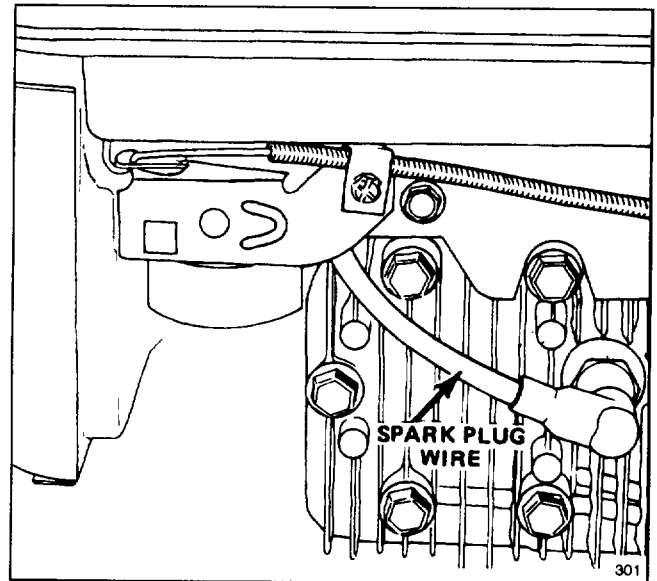

Figure 11
2. Push spark plug wire onto spark plug (Fig. 11).
1. Stop the engine and pull the wire off the spark plug (Fig. 11).
1. Stop engine and pull wire off spark plug (Fig. 11).
3. Set air gap at 0.030" (0.76 mm) (Fig. 11). Install correctly gapped spark plug and gasket seal. Tighten plug firmly to 15 ft-lb (20 N·m).